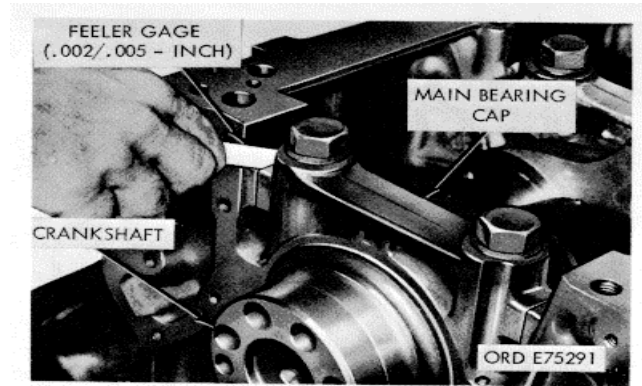

Figure 3-7. Bearing cap to block clearance check.
l. Check clearance between main bearing caps and block at side bolt contact area on each of cap; clearance must be 0.002-0.005-inch fig. 3-7).